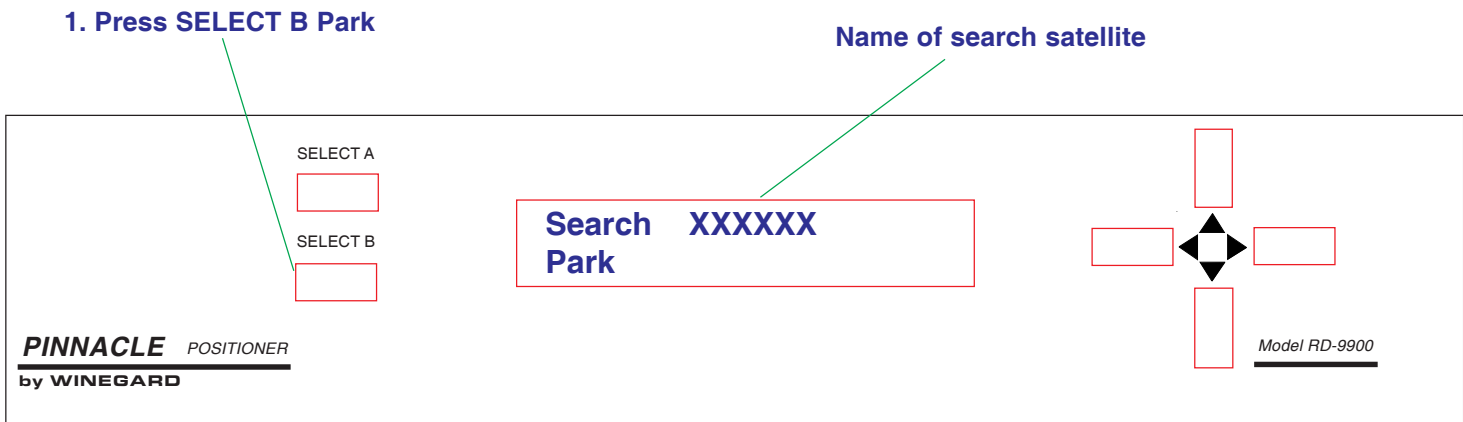

Figure 8
1. Unplug positioner from AC power for 3 seconds, then plug positioner back into AC power. The positioner will display the normal menu. See Figure 8.
2. Press [SELECT B] Park to put antenna into the park position. See Fig. 8.